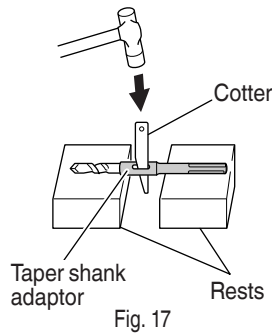

Fig. 17
- (4) To remove the drill bit (taper shank), insert the cotter into the slot of the taper shank adaptor and strike the head of the cotter with a hammer supporting on the rests. (Fig. 17)